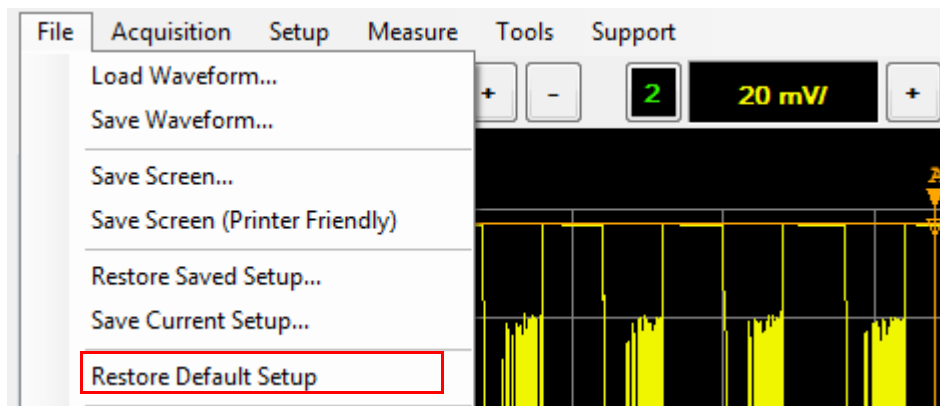

Figure 2-149 Restore Default Setup selection in the File menu
- 1 Select **File > Restore Default Setup** on the toolbar to restore the 8990B to its factory default settings as shown in Figure 2-149.